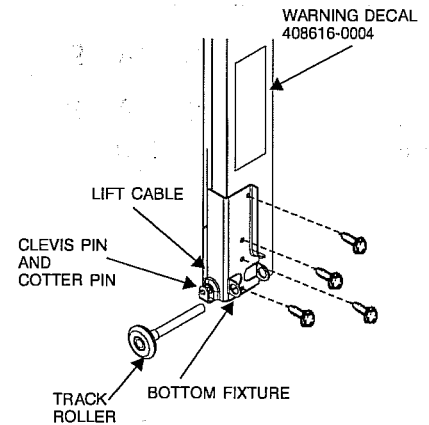

Figure 1
Align bottom fixture on bottom section. Attach with a minimum of three (3) fasteners and insert track rollers. See Figure 1.
2. Attach Warning decal above each Bottom Fixture. See Figure 1.